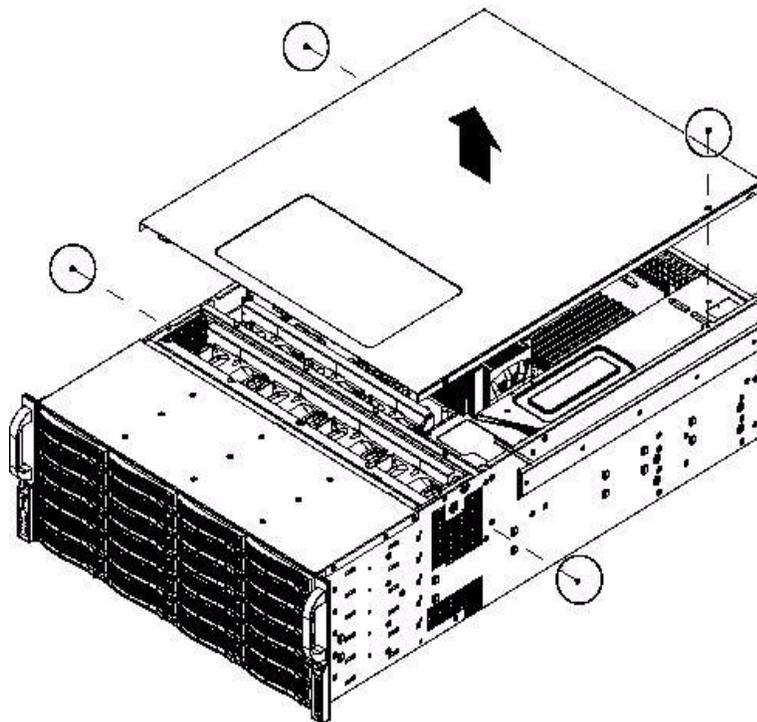

Figure 3-6 Removing the Chassis Cover
2. Remove the screws securing the cover to the chassis, shown in Figure 3-6.